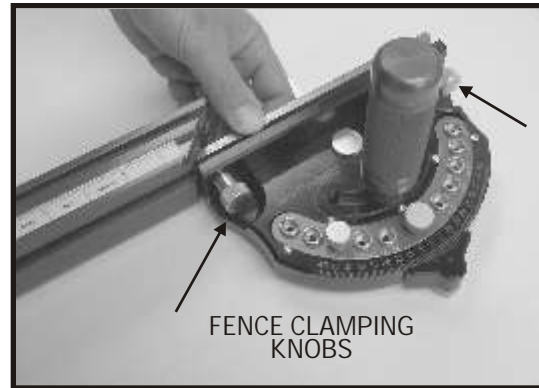

FIG. 2
2. Loosen the two brass fence clamping knobs. Take the miter fence and slide the fence mounting bar into the center track on the fence back. Then re-tighten the two brass fence clamping knobs to secure the fence into position on the mounting bar. (Fig. 2)